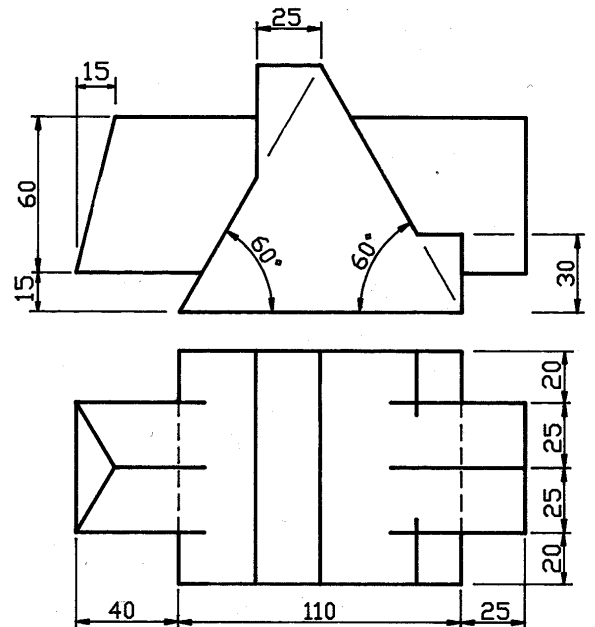

Fig. 7
7. Fig. 7 shows the elevation and incomplete plan of a solid resting on the horizontal plane which is intersected by a triangular prism.